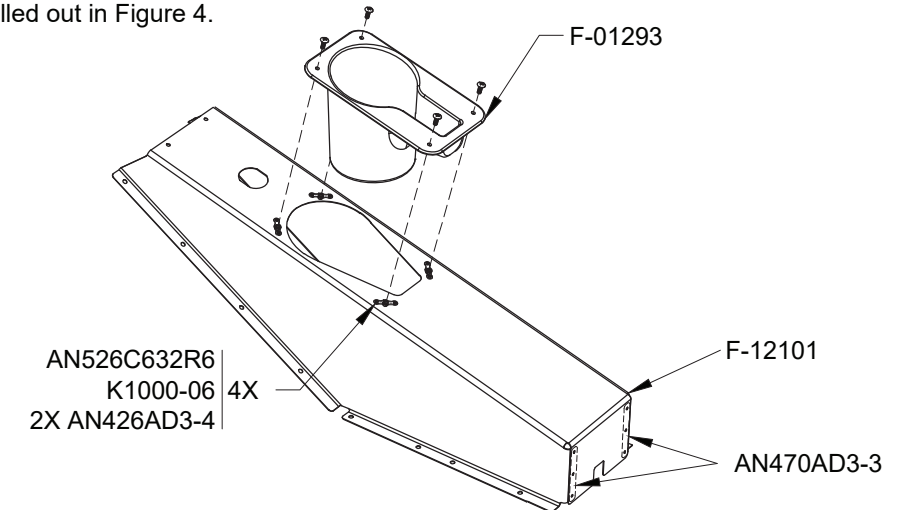

FIGURE 3: INSTALLING THE CUP HOLDER
Step 6: Install the F-01293 using the hardware shown in Figure 3.